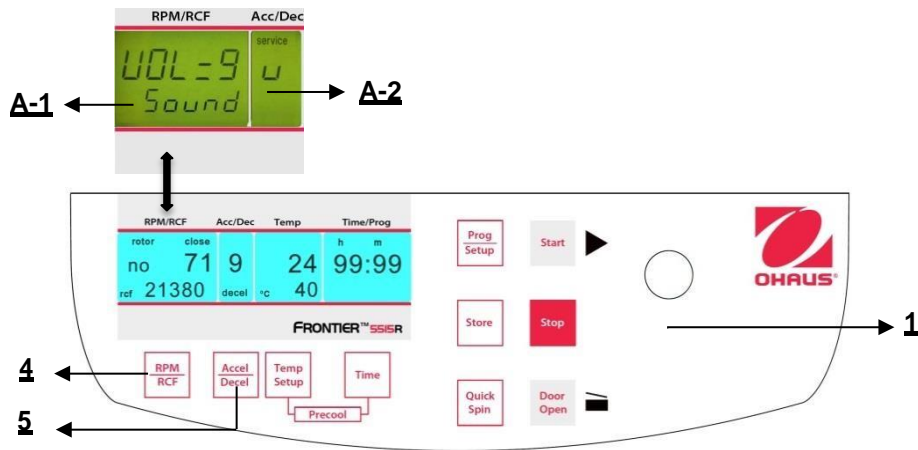

Figure. 34
Proceed as described under point 4.1.2 to enter this program mode and then press the key "Accel/Decel" (5). In the display "Acc/Decel" (A-2) the word "Service" flashes. Now select the letter "U" with the adjusting knob (1). As a result, in the display "RPM | RCF" (A-1) the words "Vol=0- 9/Sound" appear. After pressing the key "RPM | RCF" (4), you can adjust the desired volume between 0 (low) and 9 (loud) with the adjusting knob (1) (See figure 34).